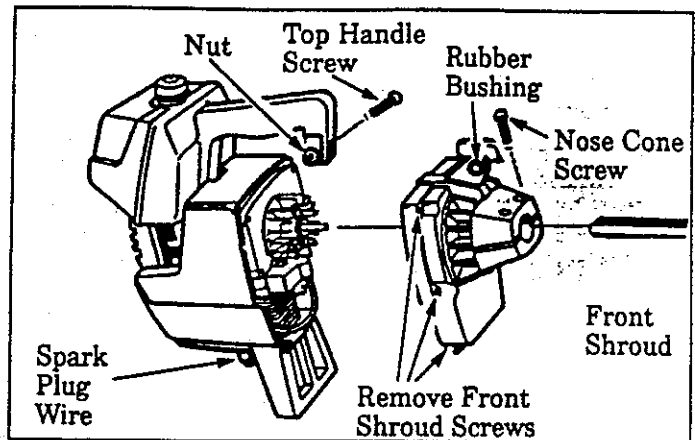

Figure 21
1. Disconnect Spark Plug Wire. Figure 21 .
2. Loosen two "Nose Cone" Screws and remove Drive Shaft Housing from front shroud. Figure 21 .
3. Remove the six Front Shroud Screws with the small hex wrench provided. Figure 21 .
4. Remove the Top Handle Screw and Nut, and remove the Steel Spacer from the Rubber Bushing on the Handle Mount. Figure 21 .
5. Separate Front Shroud from Engine. Figure 21 .